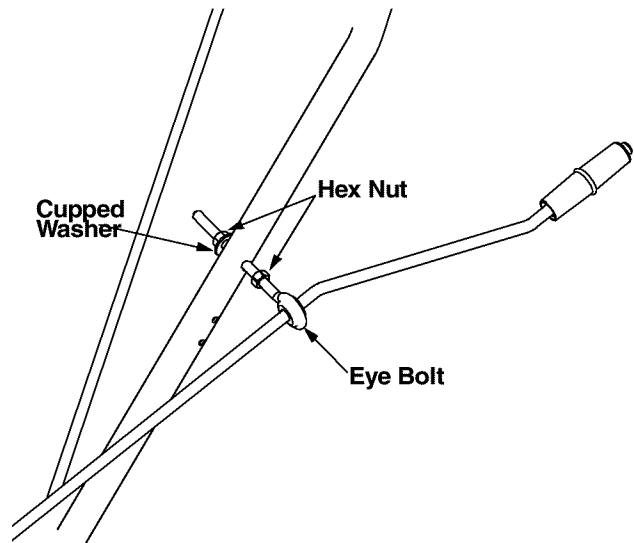

Figure 5
- Insert eye bolt through the hole provided in the left handle. See Figure 5.